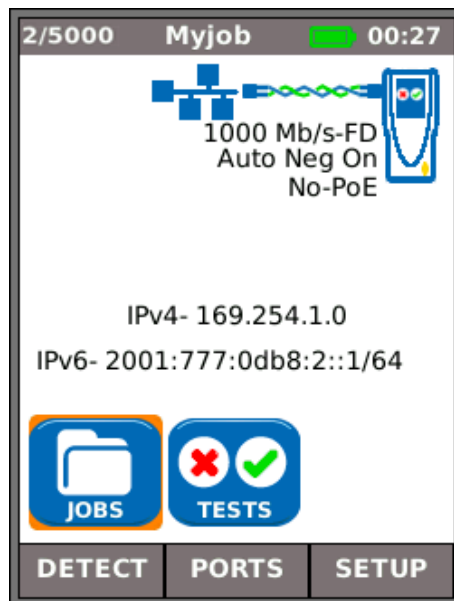

Fig 9
(2) When the Near-End Unit is connected to an active network, using copper or fiber cable, press the soft key DETECT (F1) to display all options available (Fig 9). IP tests can be run. For a full description of these options see - *Tests menu description - Ethernet mode, page 25*.